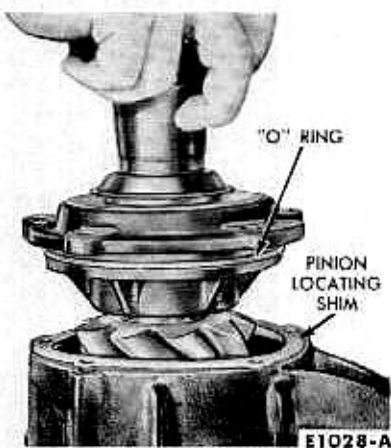

FIG. 25—Pinion Assembly Installation
Pinion bore dimension tolerances and the operating positions of the gears require the use of an adjusting shim between the pinion retainer and the carrier (Fig. 25).
1. Lubricate the O-ring with axle lubricant and install it in its groove in the pinion retainer (Fig. 25). Be careful not to twist it.